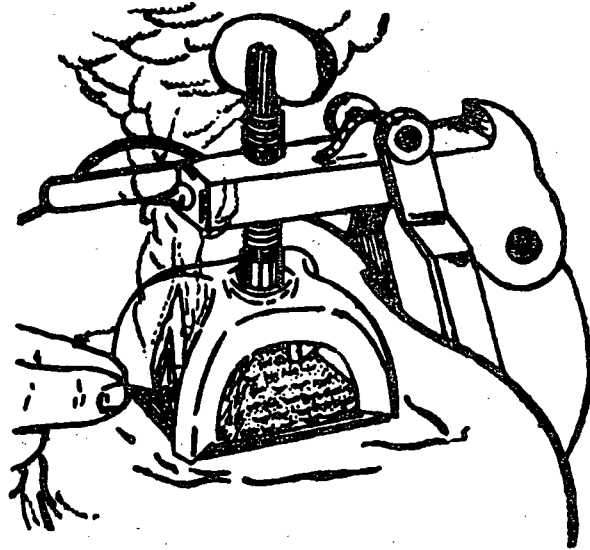

Fig. 2
- e) Light the fuel in the metal box (Fig. 2).